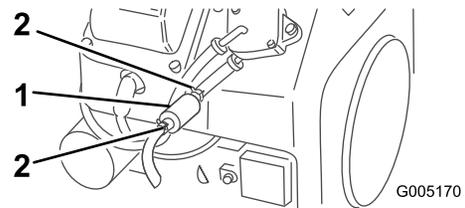

Figure 27
4. Squeeze the ends of the hose clamps together and slide them away from the filter (Figure 27).
5. Place a drain pan under the fuel lines to catch any leaks, then remove the filter from the fuel lines (Figure 27).